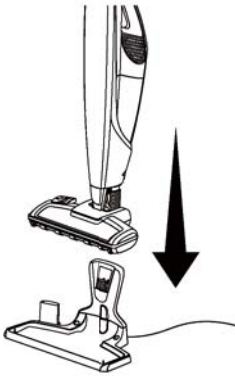

Fig.7
- Plug the charging adapter into an outlet. Insert the vacuum cleaner onto the charger base as shown (Fig.7).